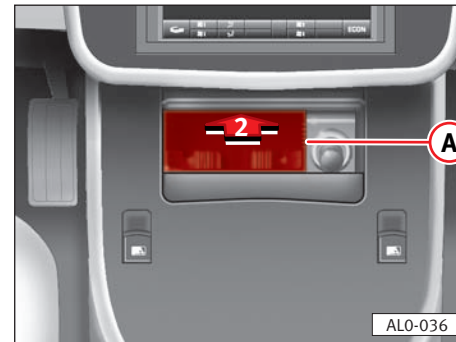

Fig. 119
To close the ashtray briefly press in the direction of arrow ②. The ashtray will close automatically with a spring ⇒ fig. 119. ■
Pull the bowl ① upwards until removed ⇒ fig. 119.
Insert bowl ① and press until it is set perfectly in place ⇒ fig. 119. ■